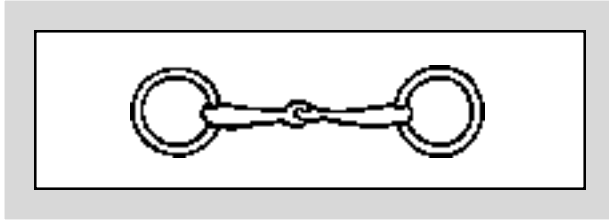

Figure 20. Ring Snaffle Bit with Jointed Mouthpiece.
- **Plain Broken Snaffle.** Standard bit supplied with Amish harness (see Figure 20).